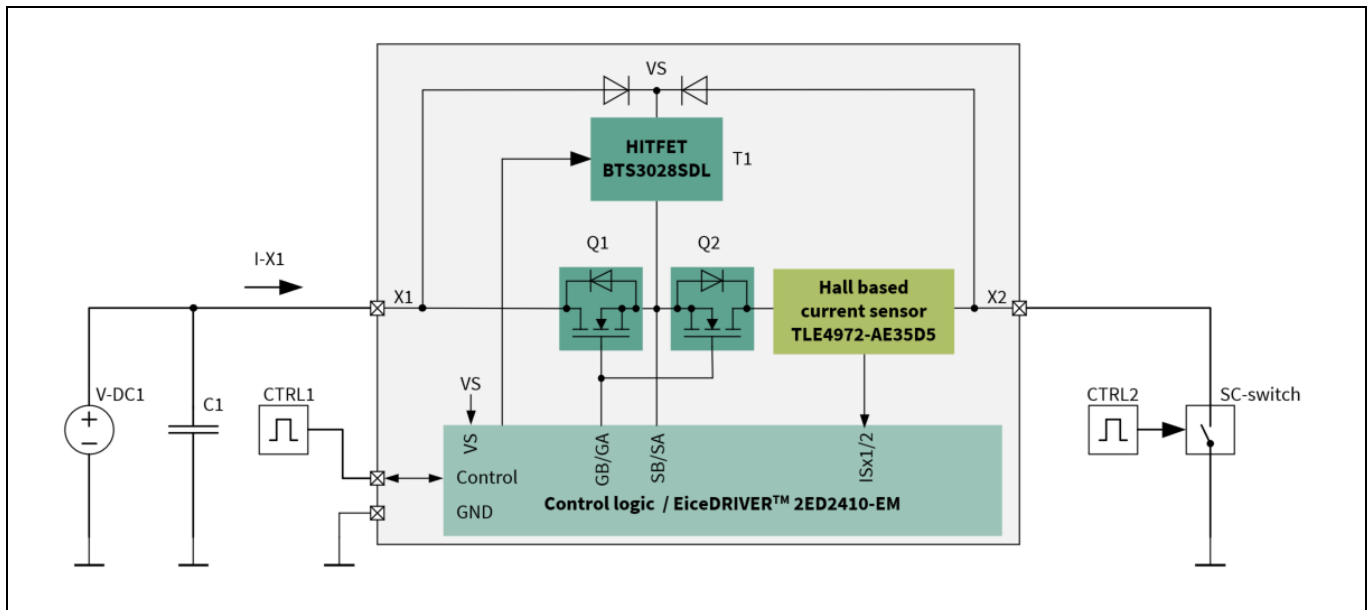

Figure 32 Block diagram of short circuit test setup / short circuit case 1
- The same as in chapter 4.2 figure 32.